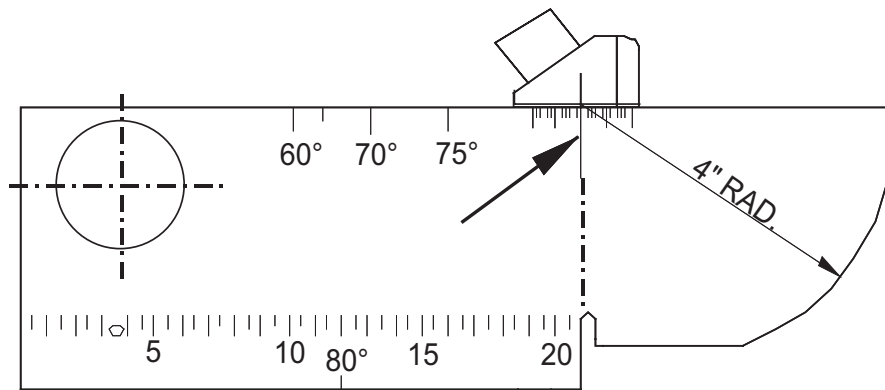

Figure 5-40: Leading Edge Index Point
11. Place the transducer with couplant on the block to reflect from the large 4 inch radius end (as shown in *Figure 5-40*).